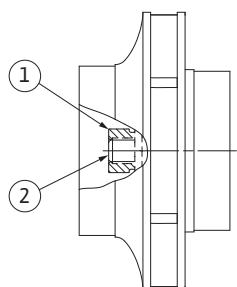

Fig. 53: Correct position of the impeller nut after the installation
29. Hold on to the shaft (see step 24) and tighten the impeller nut with the specified tightening torque (see list “Table 11: Screw tightening torques” on page 115). The nut (Fig. 53, Item 1) has to be about ± 0.5 mm flush with the end of the shaft (Fig. 53, Item 2). If this is not the case, release the nut and repeat steps 25 to 29.